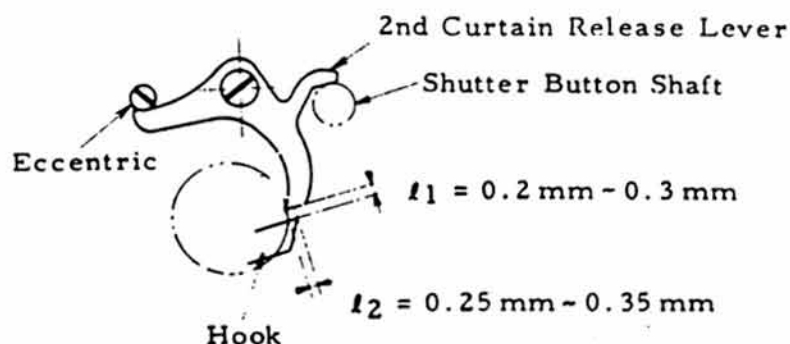

Fig. 23
- 3) Install the Lever and Hook as shown in Fig. 23.
For  $l_1$  adjustment, select a suitable 2nd Curtain Release Lever (19-0656). (Fig. 23)
For  $l_2$  adjustment, align the eccentric screw. (Fig. 23)